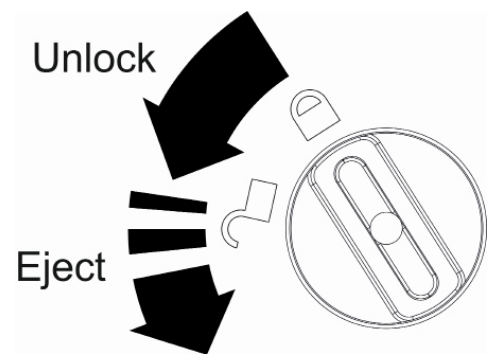

Figure 4 - Opening the USB cover. Twist and allow the hatch to rise upwards from the housing
2. Allow the USB Port Cover to rise upwards (Figure 4)